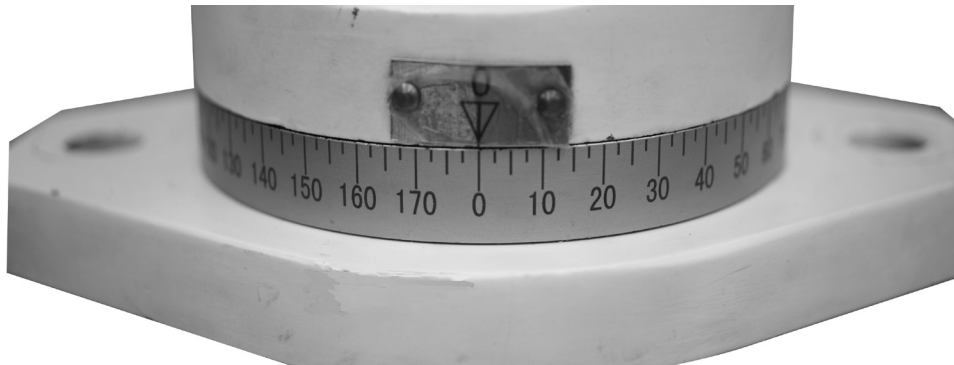

Fig. 12
- (5) Loosen the End Mill Grinding Attachment so that it can be swiveled and adjust it  $1^{\circ}$  -  $5^{\circ}$  as Figure 12.